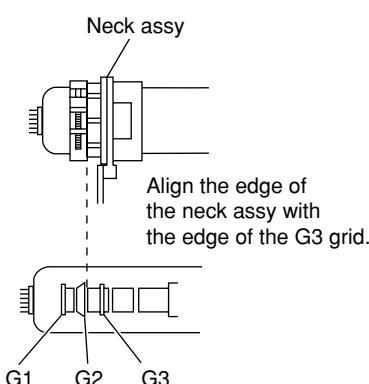

Fig. 5-1
- Position neck assy as shown in Fig 5-1.
(See Figures 5-1 through 5-3.)